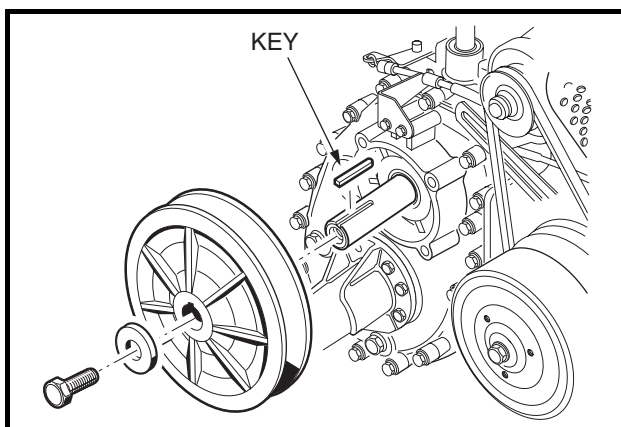

Figure 16-40 Driven Clutch
10. Install the key onto the input shaft (**Figure 16-40, Page 16-17**).
11. Position the driven clutch on the transaxle input shaft and install the washer (yellow side facing out) and mounting bolt. Tighten the mounting bolt to 14 ft-lb (19.0 N·m) (**Figure 16-40, Page 16-17**).